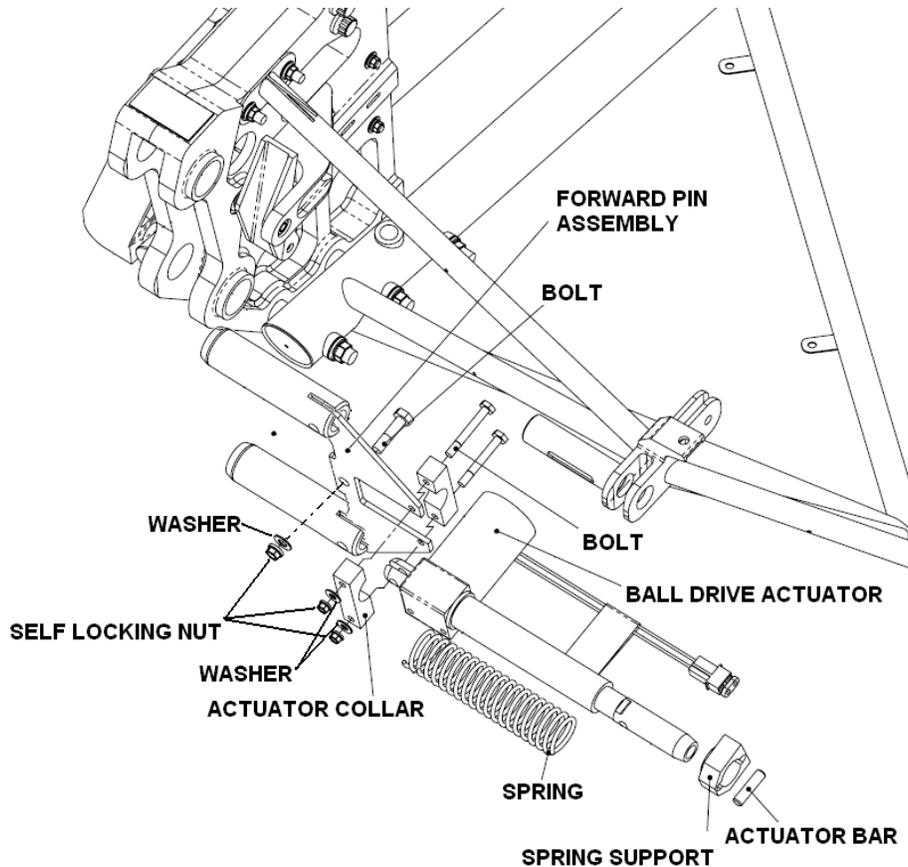

Figure 57-20 Drive Actuator Assembly
5. While someone holds the spring and spring support back, use a drift punch to drive the actuator bar out of the aft pin. See Figure 57-20.